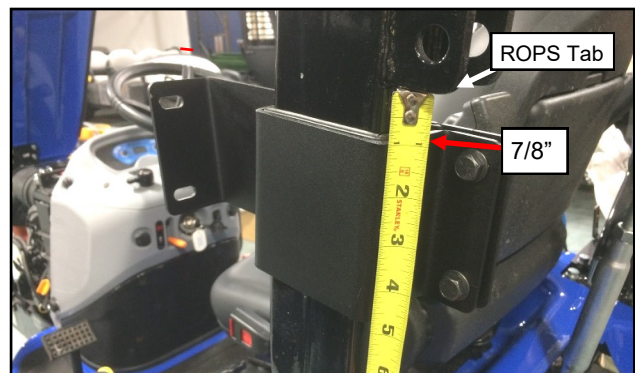

Fig. 3.1 (ROPS Bracket and clamp, left)
- 3.1 Measure down from the tab found on the ROPS Structure approximately 7/8". Make a mark using a china marker or other non-permanent marker. Install the left ROPS bracket and clamp. See Figure 3.1.